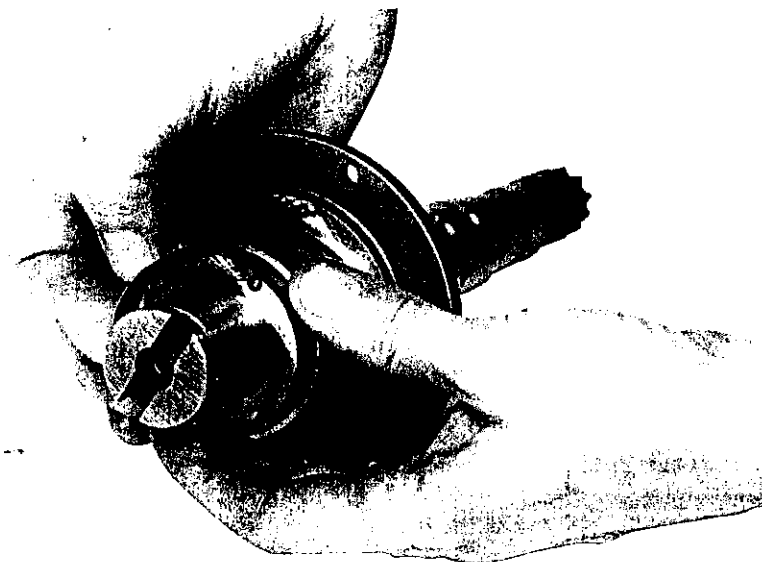

Fig. 15. Piston ring fitting procedure
5. Where a loading tool is not available use a thin metal strip, long enough to lay along the shaft above the grooves. Expand each ring just sufficiently to allow it to be placed in its approximate position over the strip. Gently withdraw the strip and locate the rings in their respective grooves (see Fig. 15).